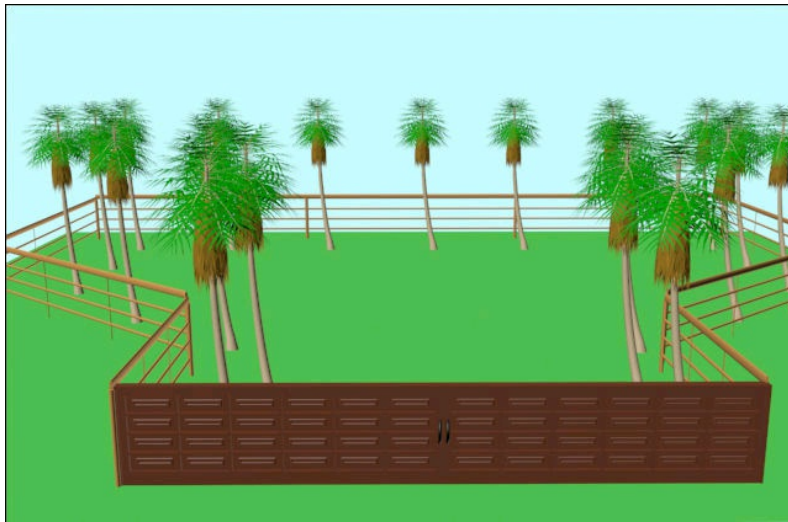

Figure 4-70 The final output after rendering
3. Set the render view the Perspective viewport and choose the **Render Production** tool from the **Main Toolbar**; the **Rendered Frame** window is displayed. This window shows the final output of the scene, refer to Figure 4-70.